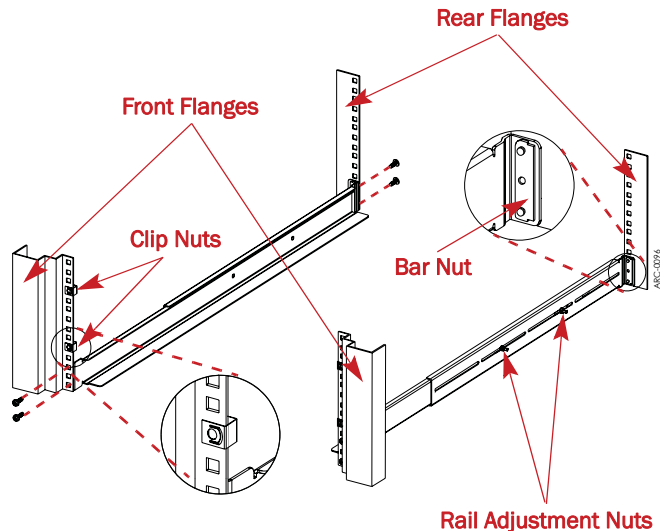

Figure 4. Attaching the Rack Kit Rails
4. Using the eight SEMS screws and four bar nuts provided, attach the rails (Figure 4) **inside** the flanges:
- a. Attach the **right rail** inside the marked locations (Figure 4) of the right front and right rear flanges.